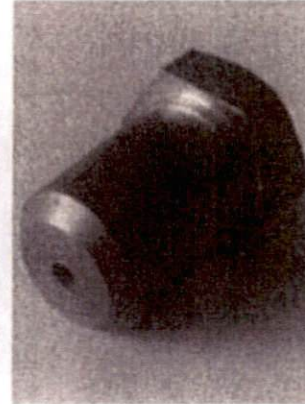

Fig. 10
- 3、 When exchange gas source, use the main fire orifice (Fig. 10) in the accessories. Follow rules of 8. 5.